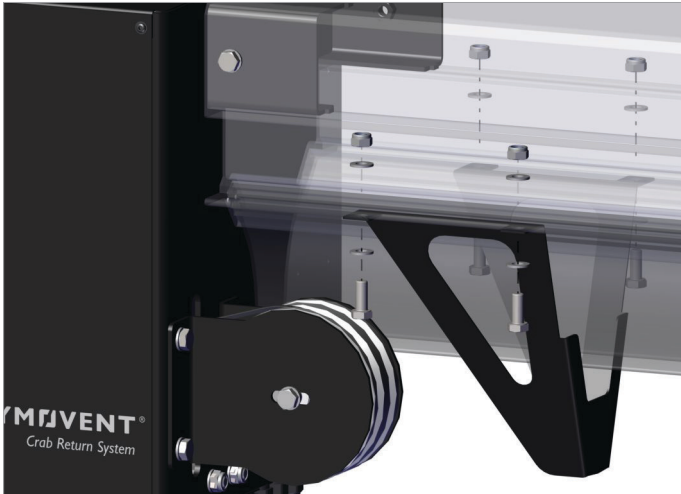

Fig. 6.3.7 Mounting the stop bracket
- Mount the stop bracket 200 mm (8 in.) from the end of the rail using self-tapping screws 6,3 x 25. Refer to fig. 6.3.7.